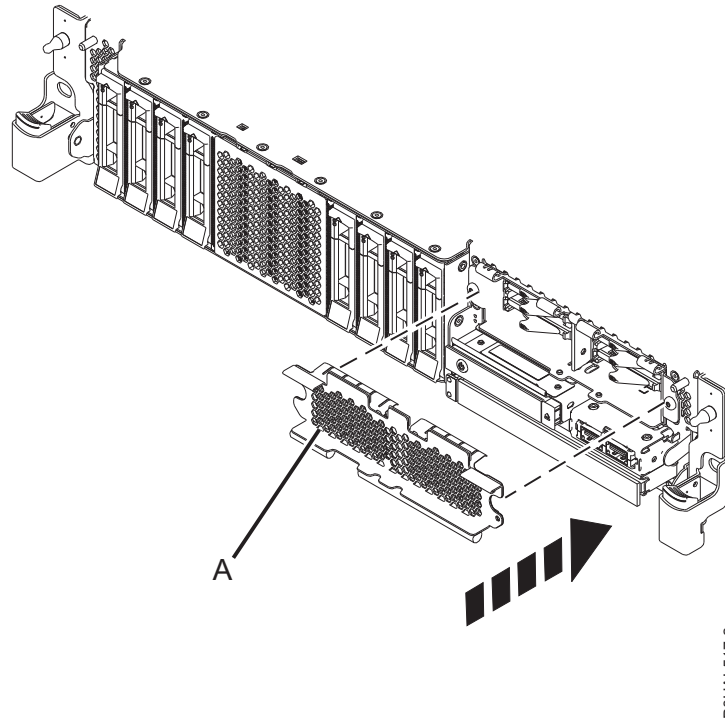

Figure 17. Covering the SSD cage in an expanded function system
3. If applicable, cover the SSD cage with the perforated plate (**A**) as shown in Figure 17 on page 21.